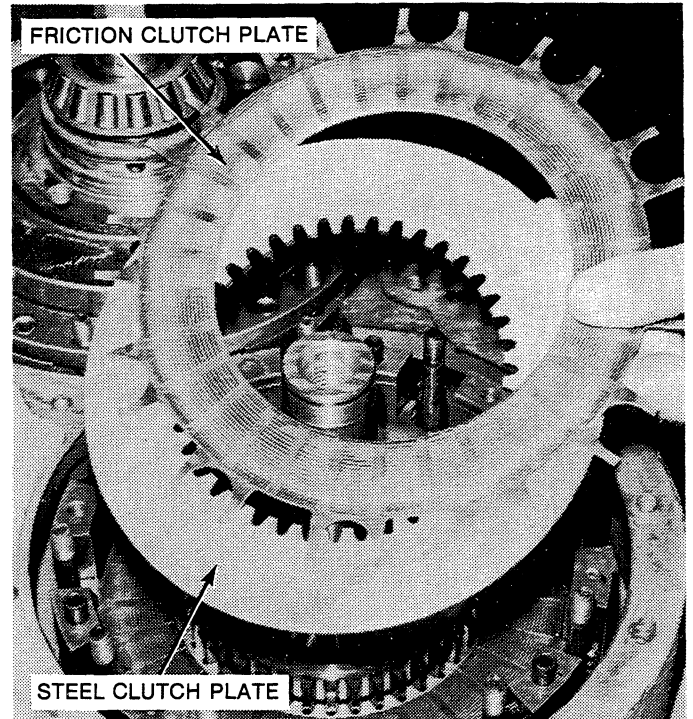

Figure 6-16. Removing or Installing Clutch Plates.
8. Remove the driven (steel) (Figure 12-2, 28) and driving (sintered) clutch plates (29). See Figure 6-16.